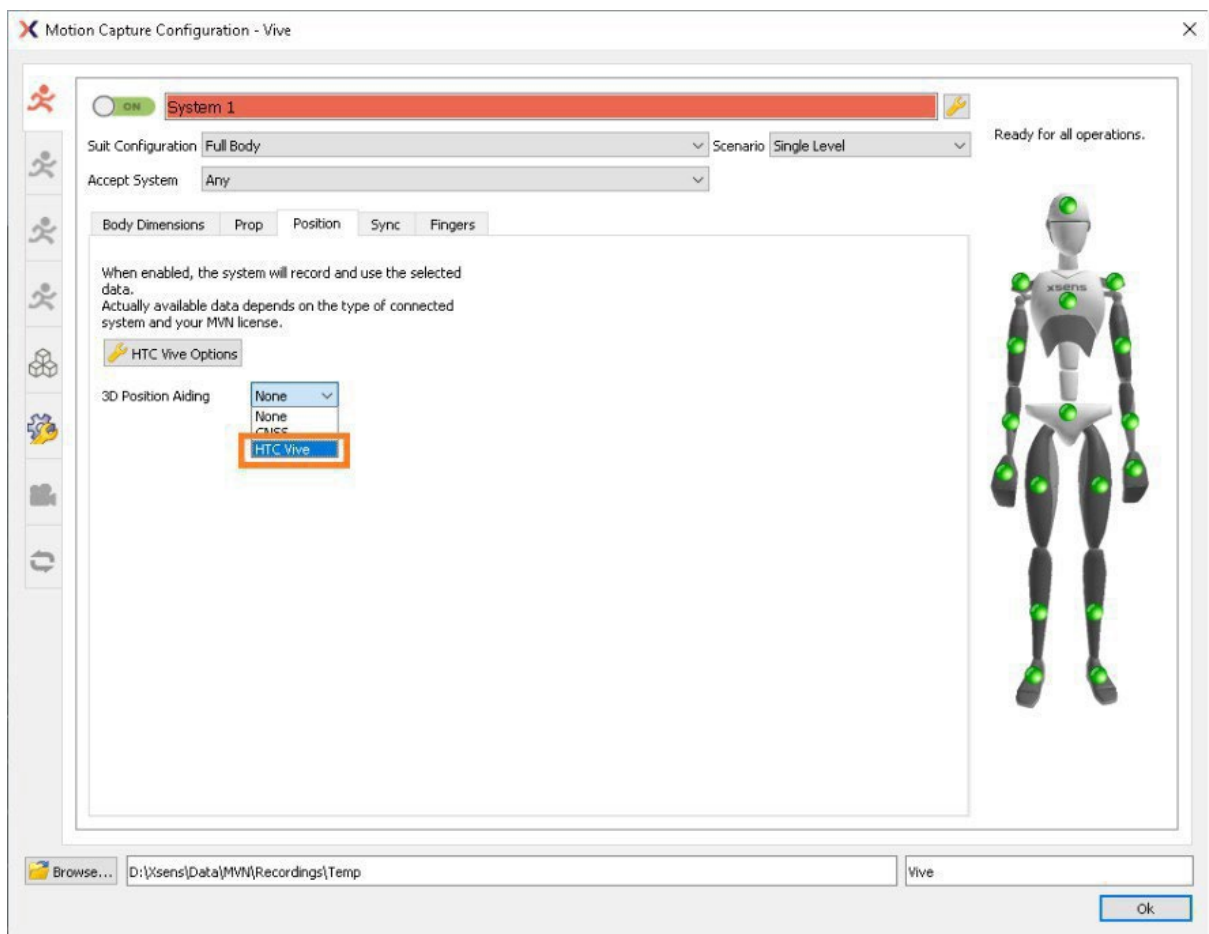

Figure 77: Motion capture configuration - Position - HTC vive
4. Select HTC Vive (Figure 77)